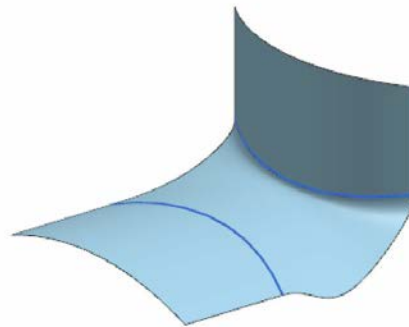

Figure 11-36 Resulting face blend feature
9. Choose the **OK** button from the **Face Blend** dialog box to create the blend, refer to Figure 11-36.